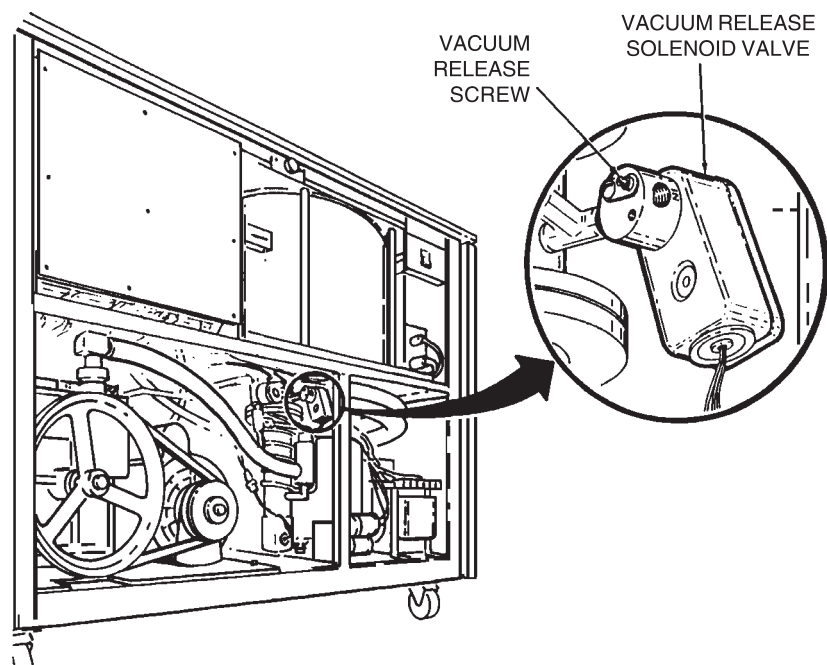

Figure 3-1. Vacuum Release Solenoid Valve Location
3. Locate the vacuum release solenoid valve, then turn the vacuum release screw clockwise (see figure 3-1). Air will begin to enter the chamber.